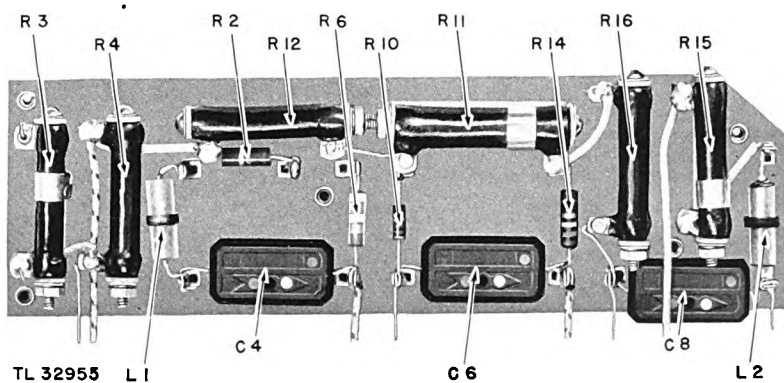

Figure 10. Terminal strip.
*a. General.* Terminal strips are used as distribution and connecting points for electrical circuits (fig. 10). Construction is simple, consisting of a strip of insulation with screw type or soldered connections mounted on it.